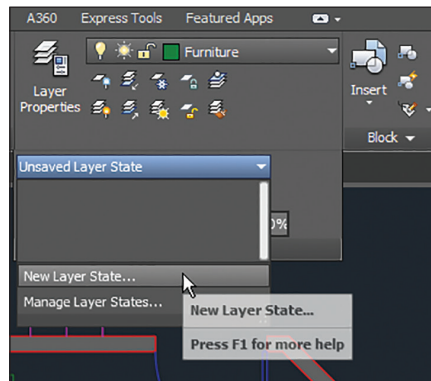

FIGURE 6.17 Saving a new layer state
1. Expand the **Layers** panel and open the **Unsaved Layer State** drop-down menu. Select **New Layer State** in the drop-down menu (see Figure 6.17).